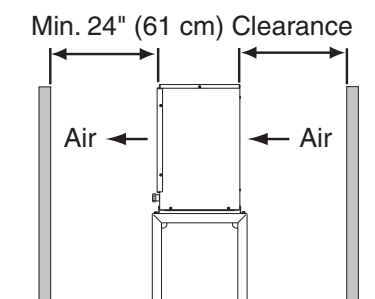

Fig. 8
- A dry and well ventilated area with 24" (61 cm) clearance at front and rear for proper air circulation and ease of maintenance and/or service should they be required. See Fig. 8.